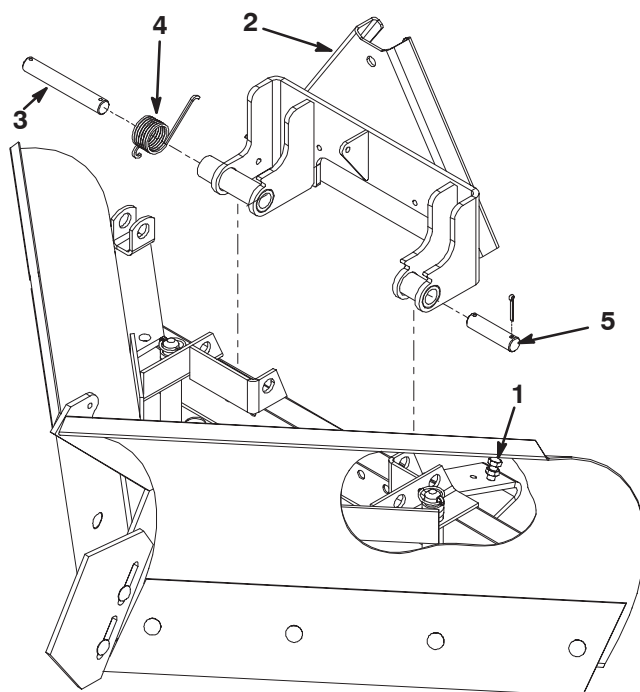

Figure 1
1. Mount the R.H. side of the V-plow mount to the V-plow with the long mounting pin, torsion spring and (2) cotter pins (Fig. 1).
2. Mount the R.H. side of the V-plow mount to the V-plow with the short mounting pin and (2) 3/16 x 1-1/2 inch cotter pins (Fig. 1).